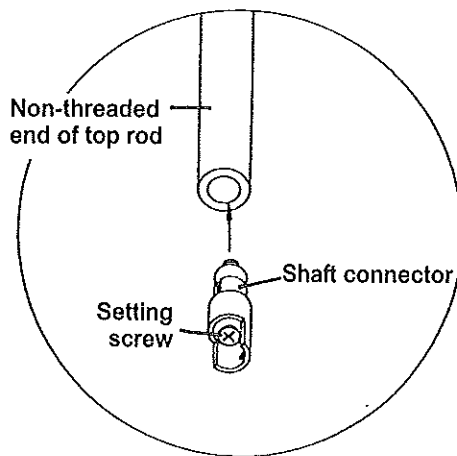

Figure 2-3
- 2-3 Insert shaft connector into the non-threaded end of top rod and fasten setting screw to it. (See Figure 2-3.)